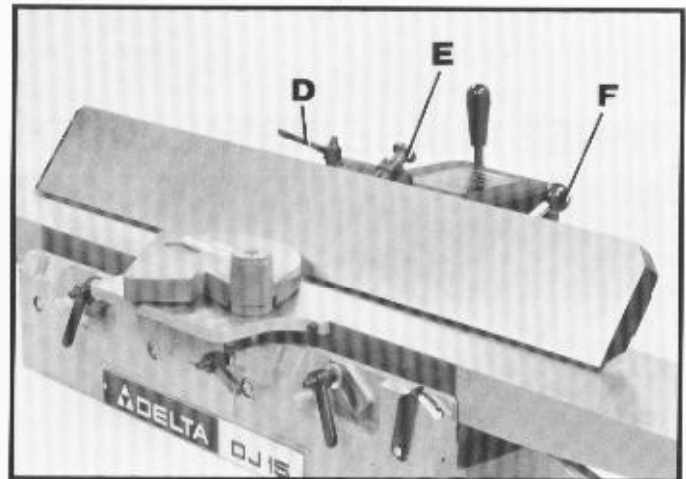

Fig. 17
To tilt the fence to the right or left, loosen handle (D) Fig. 17, pull out and turn plunger (E), and move the fence tilting lever (F) to obtain the desired angle of tilt; retighten locking handle (D). **NOTE:** The handle (D) Fig. 17, is spring-loaded, and can be repositioned by pulling out the handle and repositioning it on the serrated nut located underneath the handle.